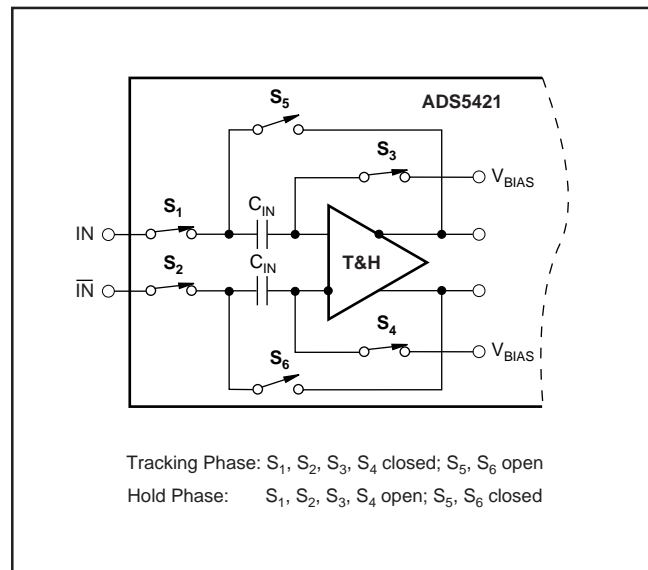
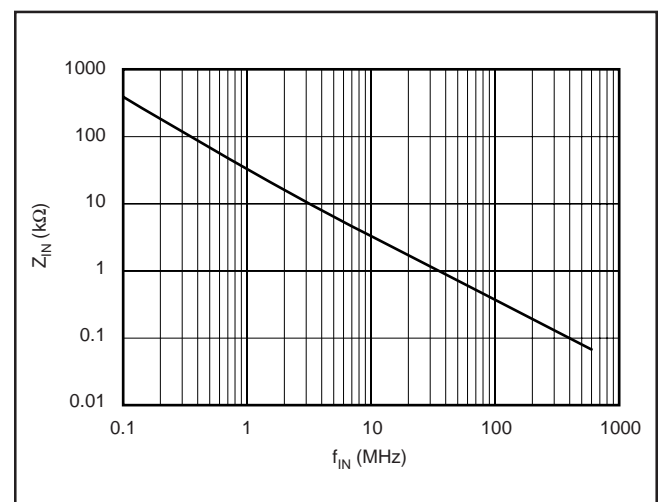

FIGURE 1. Simplified Circuit of Input Track-and-Hold Amplifier.
FIGURE 2. Differential Input Impedance vs Input Frequency.
The analog input of the ADS5421 consists of a differential track-and-hold circuit, as shown in Figure 1. The differential topology produces a high level of AC performance at high sampling rates. It also results in a very high usable input bandwidth—especially important for Intermediate Frequency (IF) or undersampling applications. Both inputs ( $IN$ ,  $\overline{IN}$ ) require external biasing up to a common-mode voltage that is typically at the mid-supply level ( $+V_{S3}/2$ ). This is because the on-resistance of the CMOS switches is lowest at this voltage, minimizing the effects of the signal-dependent,
The input of the ADS5421 is capacitive, and the driving source needs to provide the slew current to charge or discharge the input sampling capacitor while the track-and-hold amplifier is in track mode (see Figure 1). This effectively results in a dynamic input impedance that is a function of the sampling frequency. Figure 2 depicts the differential input impedance of the ADS5421 as a function of the input frequency.